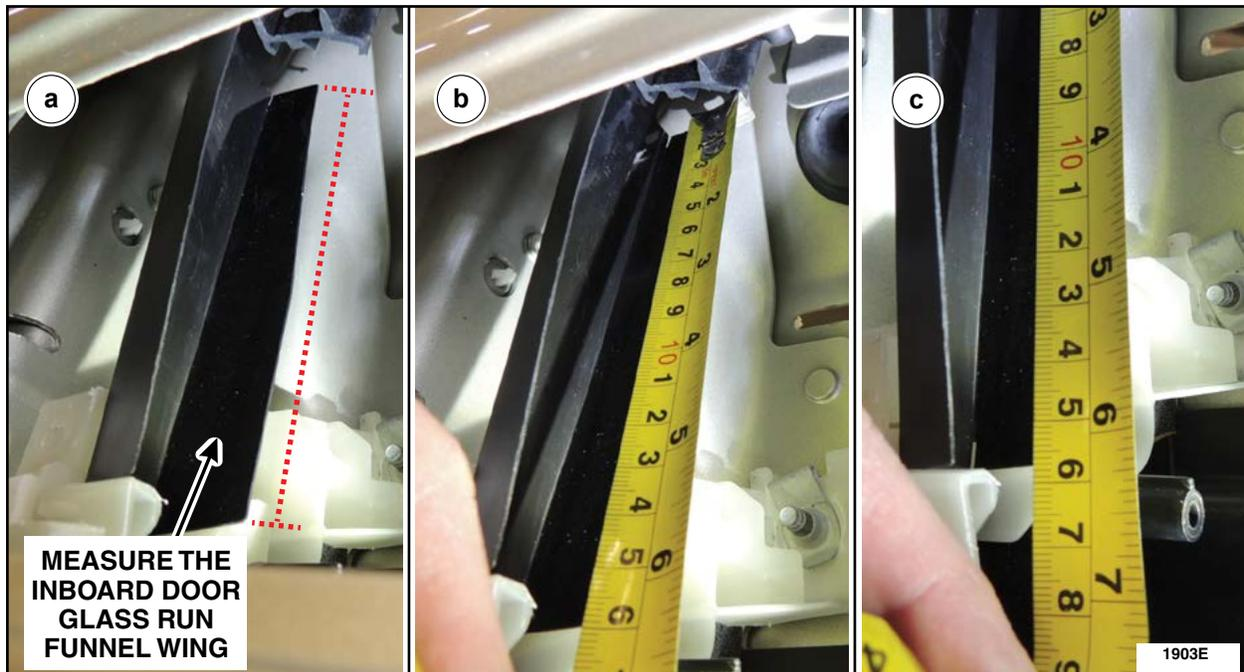

FIGURE 3
4. Measure the door glass run funnel inboard wing for proper length (157mm). See Figure 3.
- Measure to the bottom of the inboard wing of the door glass run funnel. See Figure 3.